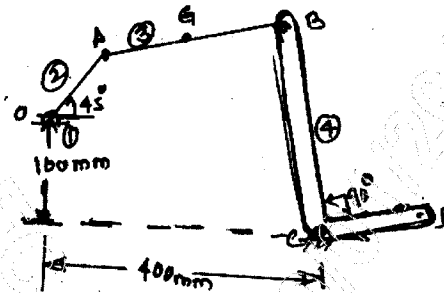

Fig.Q3(b)
- b. The mechanism shown in Fig.Q3(b) has following dimensions $OA = 100\text{mm}$, $AB = 280\text{mm}$, $BC = 240\text{mm}$ and $CD = 120\text{mm}$. The centre of gravity of link AB is located at a distance of 120mm from A. Determine the velocity of G, D and angular velocity of link AB and the ball crank lever BCD. The crank OA rotates uniformly at 30 rad/sec . Use instantaneous centre method. (12 Marks)